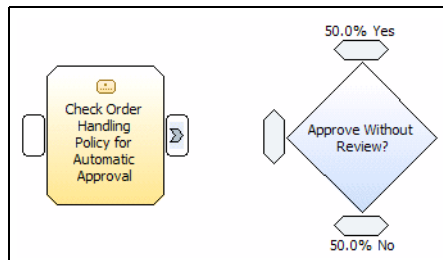

Figure 6-11 Decision Approve Without Review?
- ▶ Select the *Create a simple decision* icon  and move the mouse to the diagram area on the right side of Check Order Handling Policy for Automatic Approval, then click to insert the decision node (Figure 6-11).